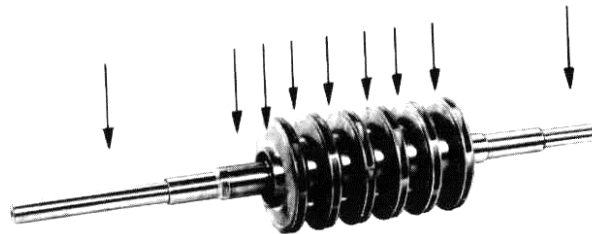

Fig. 68 - Rotor assembled for dynamic balancing
Before dynamic balancing, the pump rotor should be checked for out-of-round in the region of the impeller necks (230) of the spacer and stage sleeves (525.1 and 521) and of the bearings (see Fig. 68). The measured out-of-round value at any of these places should not exceed 0.03 mm. Before final assembly in the pump, the pump rotor must be dismantled again, in reverse sequence to the assembly described above.